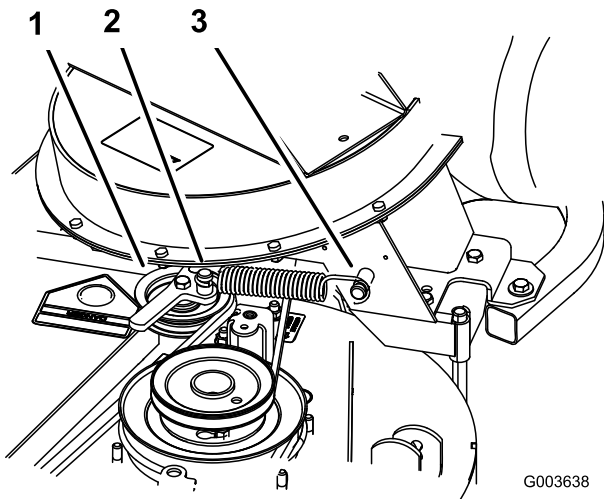

Figure 35
6. Install the spring as shown in Figure 35.